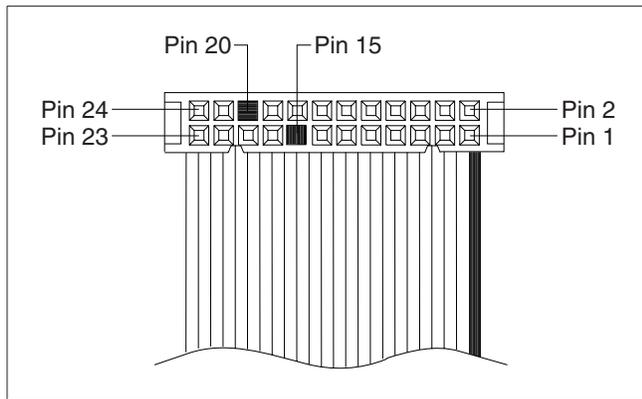

Figure 6-34. Extension Card Cable Connector
– Disconnect the extension card cable from J2 on the printer card. See Figure 6-38 on page 6-65 for the locations of the printer card connections. See Figure 6-34 for the locations of the cable connector pins.